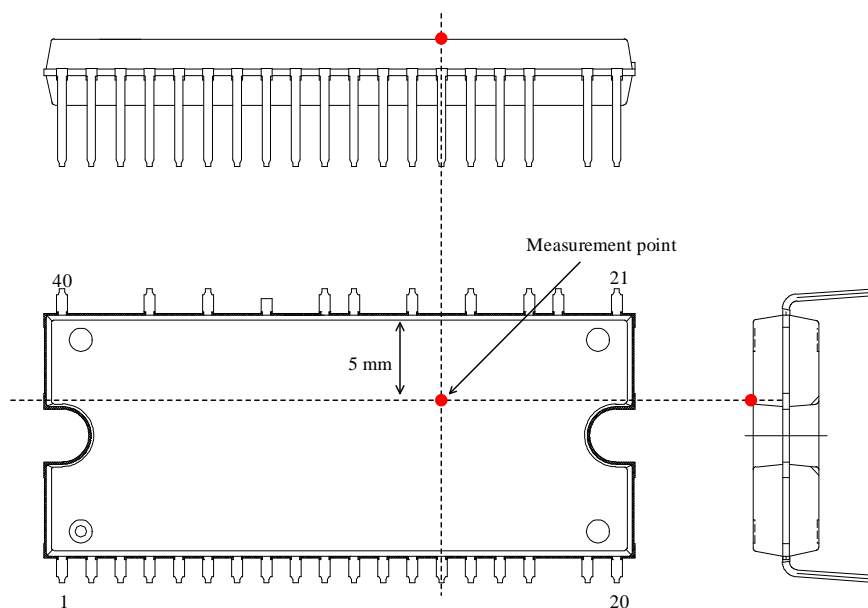

Figure 3-1. Case Temperature Measurement Point
(1) Refers to a case temperature at the measurement point described in Figure 3-1, below.